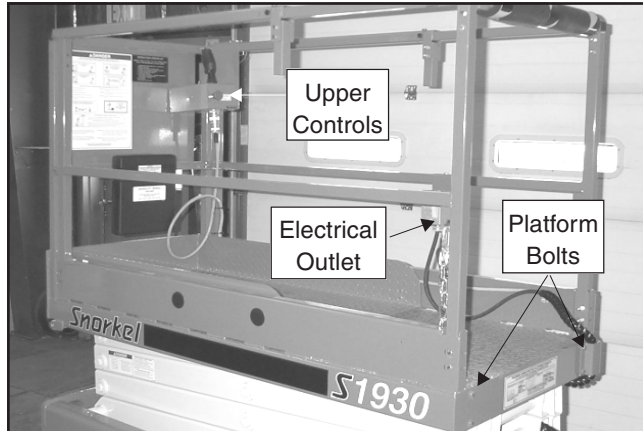

Figure 5.1—Platform Assembly
3. Remove four bolts (figure 5.1 & 5.2) from the base at the rear.